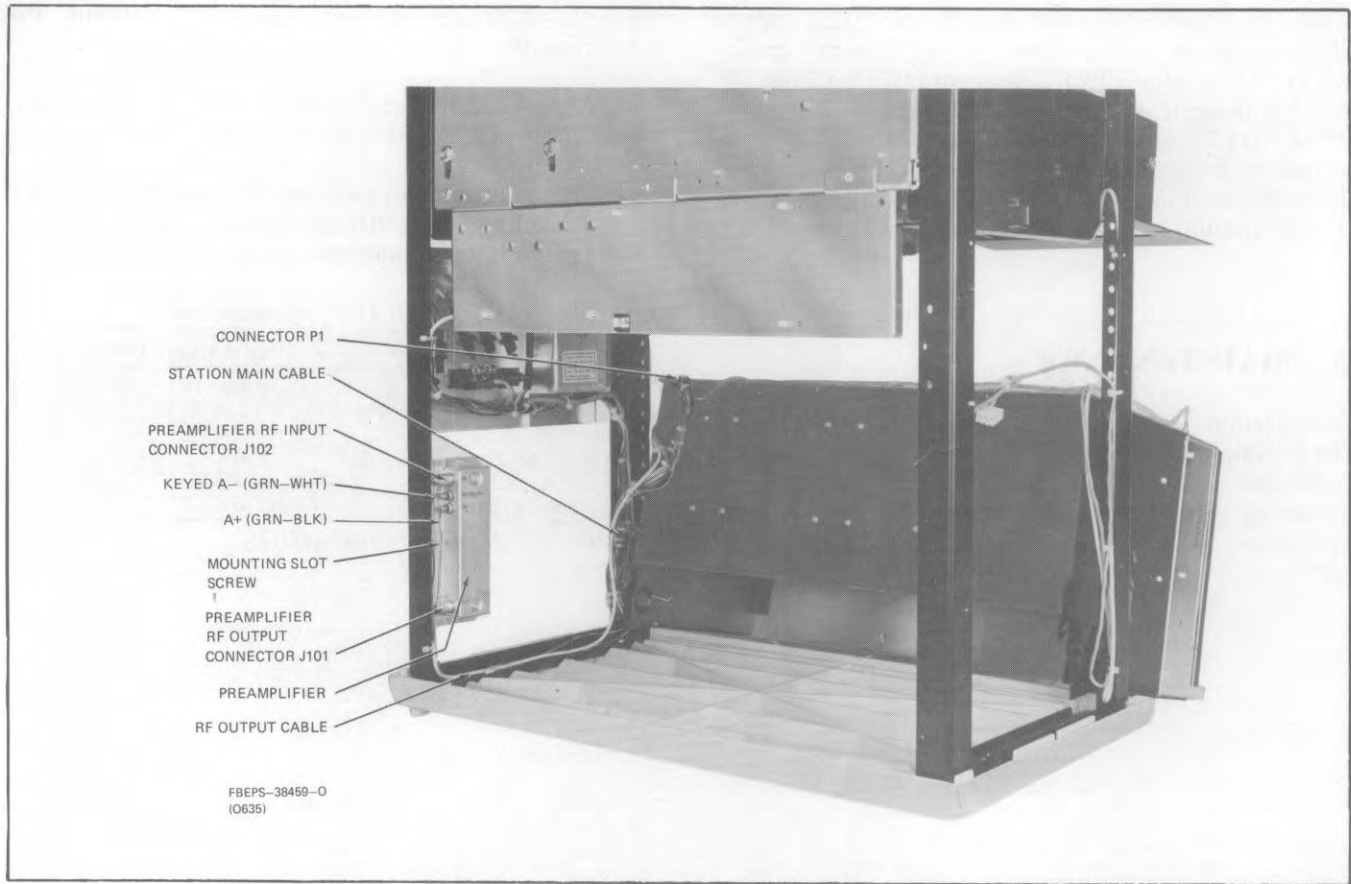

Figure 3. 1-Receiver Base Station
Step 4. Start threads of the mounting screw in the right rear rail of the station (see Figures 3 and 4).